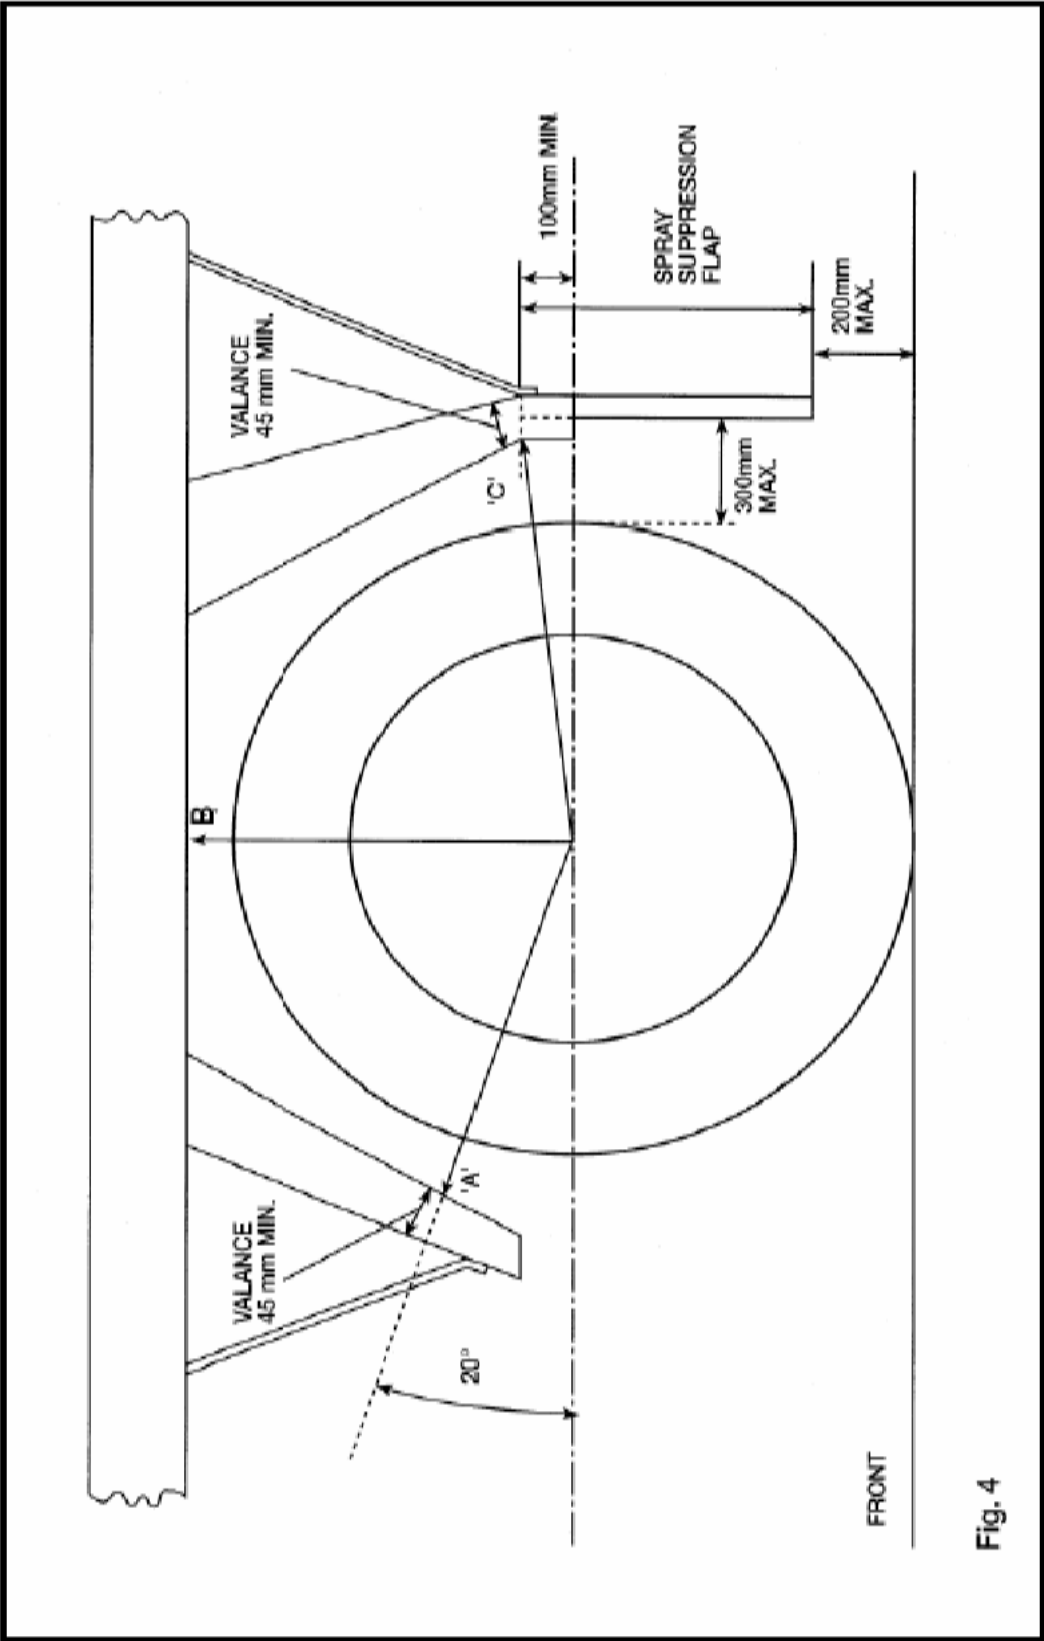

Fig. 4
12. The lower edge of the outer valance shall not exceed $1.5 \times$ tyre radius on steered wheel at points A,B and C as in Figure 4.
13. The lower edge of the outer valance shall not exceed $1.25 \times$ tyre radius on non-steered wheel at points A,B and C as in Figure 4.